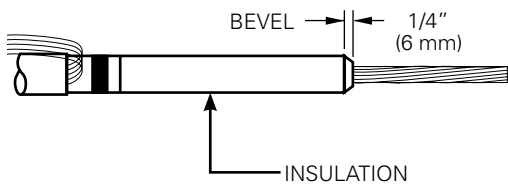

Figure 6. Line illustration of insulation bevel
- Remove sharp edge of insulation by beveling at 45° angle for approximately 1/4" (6 mm). (See Figure 6.)